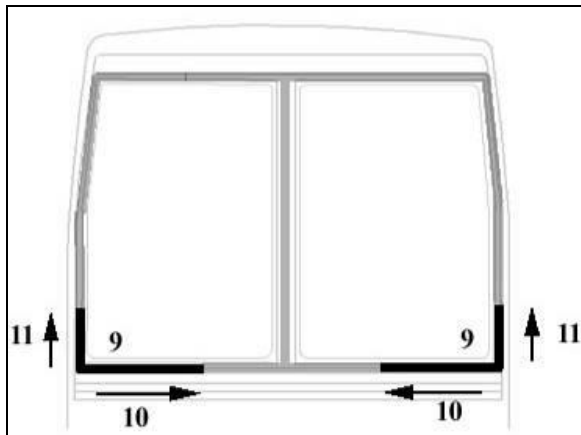

FIGURE 62
7. Apply soapy water. Insert the rubber extrusion at the location identified #7 (Figure 62). Make sure it is centered in relation to the vertical member.
8. Insert the rubber extrusion at the location identified #8 (Figure 62).